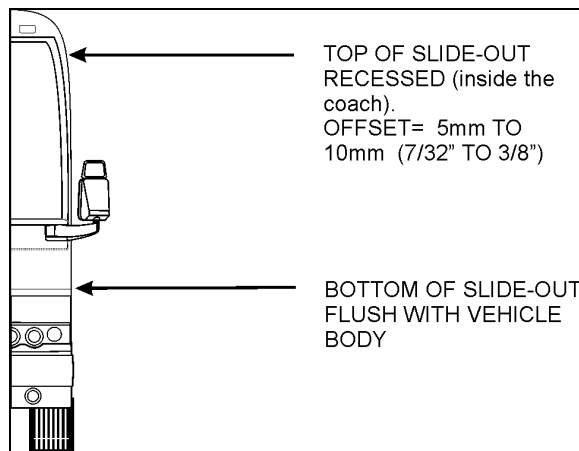

FIGURE 23: TILT ADJUSTMENT
- Using levelling screw 3, adjust the tilt in order to have the top of the slide-out recessed between 5mm and 10mm ( $7/32$ " and  $3/8$ "") (see FIGURE 23).